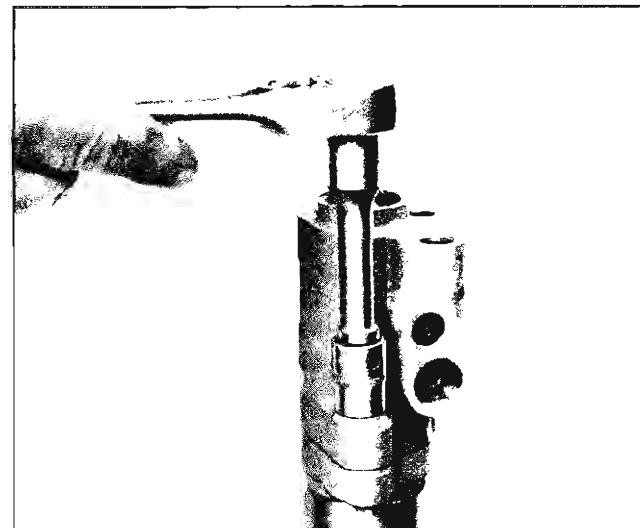

Fig. 9A-30 Removing Valve to Adapter Bolts
4. Remove spool from housing (Fig. 9A-32).